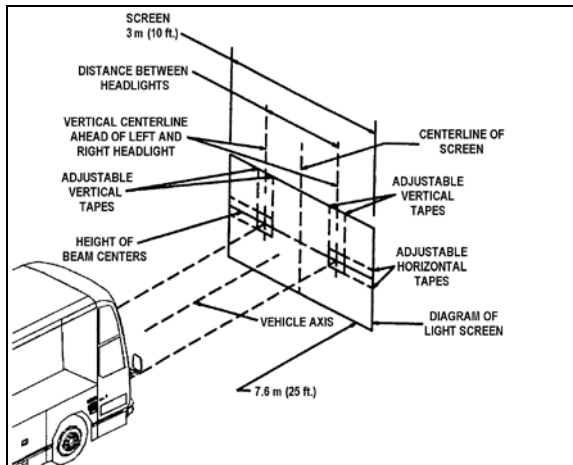

FIGURE 33: ALIGNMENT OF HEADLIGHT AIMING SCREEN 06502
3. The headlight centerlines shall be spaced either side of the fixed centerline on the screen by $\frac{1}{2}$ the lateral distance between the light source centers of the pertinent headlights. The horizontal tapes should be located on the screen at the upper and lower limits called for in the specification with reference to the height of beam centers and the plane on which the vehicle rests, not the floor on which the screen rests (Figure 33).